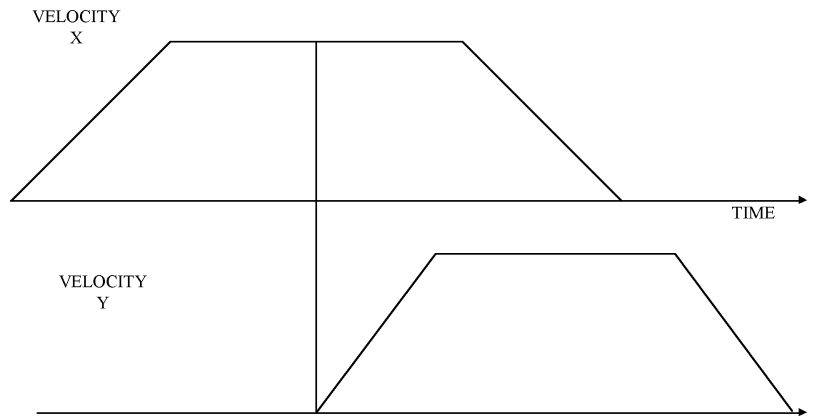

Figure 6
Consider how you might program two motors to move a distance of 8,000 encoder counts at a maximum speed of 20,000 count/sec. Assume the acceleration rate is 100,000 count/sec². Let the second motor (Y) start its move when the first (X) has reached a distance of 4,000 counts. A sample program follows along with corresponding velocity profiles (Figure 6).